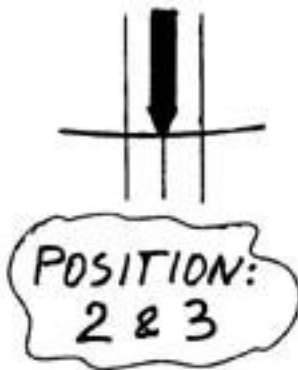

Fig. 4
6. [Fig. 4] Next, move the arm/cartridge to **position “2”** which is located 121mm from the center of the record. Place the stylus in the selected groove (arc or line) where it intersects with the center line of the 3 parallel lines. Use the x4 magnifying glass and flashlight (if necessary) to see if the cantilever is exactly parallel and aligned to the center line (0 degree error). No separate reflections should be visible, remember paragraph 1. Move your eye/magnifying glass a little left and right to assure what you are seeing is accurate. **The cantilever MUST be located as an extension of the center line.** Remember: “The WallyTractor is the only tool for perfect alignment of the cantilever/stylus assembly!”